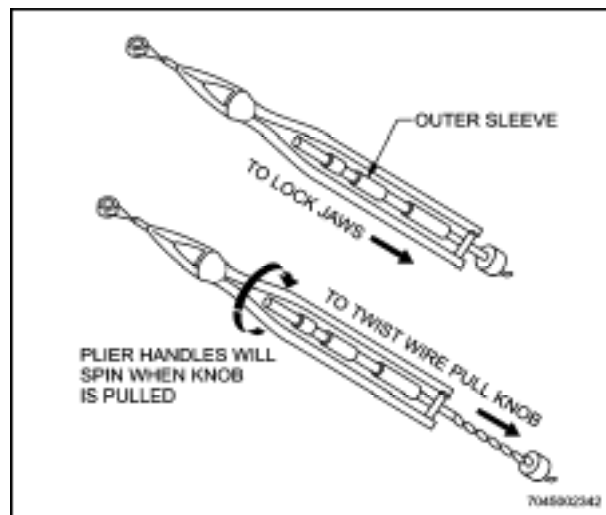

Figure 9-3 Use of Lock Wire Pliers
12. Twist wire with a wire twister as follows (see Figure 9-3):